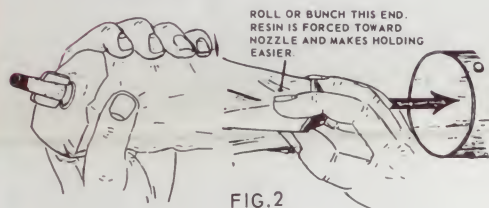

FIG. 2
- (1) Grasp the container in both hands, holding it roughly cylindrical so it can easily slide into the gun barrel. See Figure 2.
- (2) Roll or bunch the end of the container opposite the nozzle. This will force some resin toward the nozzle end and improve the cylindrical shape for loading. See Figure 2.
- (3) Slide the bag into the gun barrel. Work the handles so the nozzle tip sticks out of the barrel. Tuck in any overlapping portions of the bag.